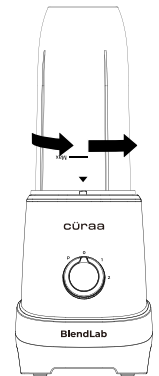

Fig. 8
- When the blending is completed, turn the Jar anti-clockwise to unlock from the motor unit (Fig. 8).